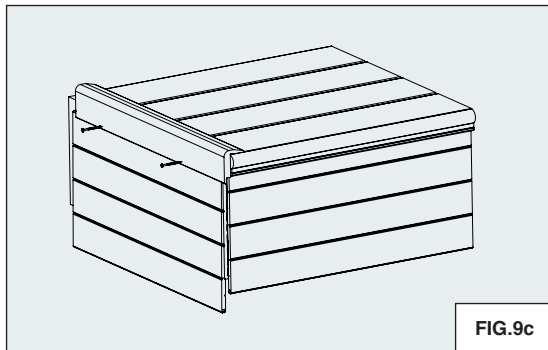

FIG.9c
- Place the 12" fascia cladding into the cladding hanger and install the L-Trim over the cladding and onto the deck with #8x2" screws. The L-Trim should rest on top of the deckboards and hold the cladding in place. (REFER TO FIG.9c & 9d)